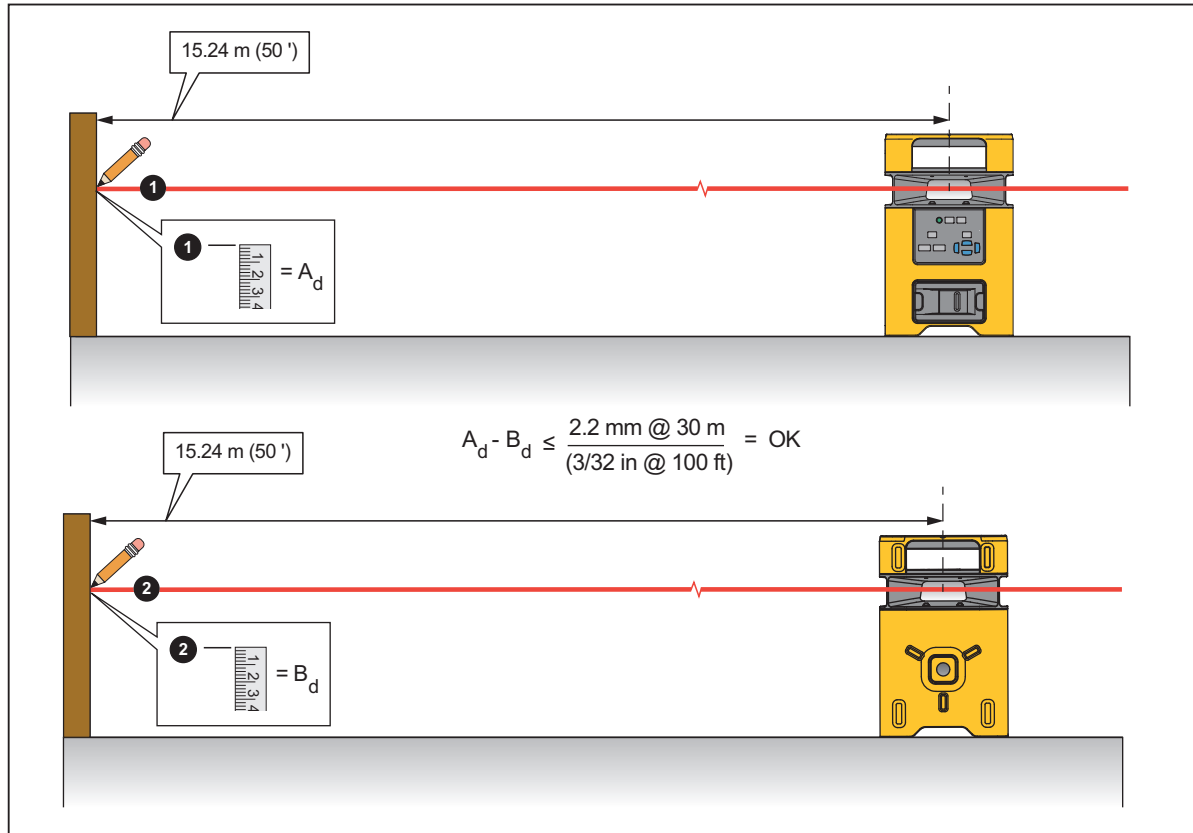

Figure 7. Level Accuracy
1. Find a horizontal site that is almost level, preferably a concrete slab, that is ≥ 15.24 m (50 ft) wide from a wall to use as a target. See Figure 7.